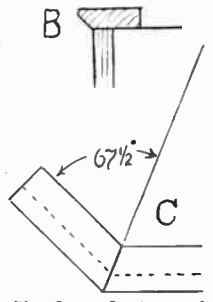

Fig. 3—Angle and chamfer of edging
A strip of the deal 1 in. wide should be bevelled at one edge, and cut into three pieces to form a cornice at the top of the cupboard. These should be accurately joined at the angles, as at (C) in Fig. 3, and overhang the edges by $\frac{1}{2}$ in., as in detail (B). Glue and nail in position. Similar strips are also fitted to the bottom of the cupboard, but the edges of these, instead of being bevelled, are neatly rounded off.